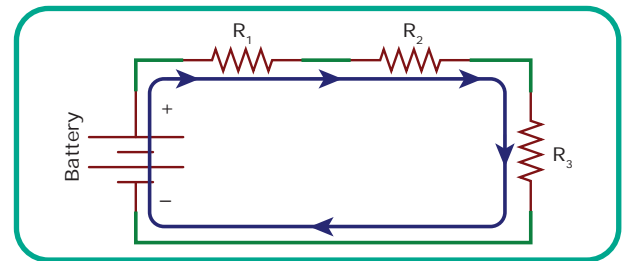

Figure 1.18 Resistors in series
Figure 1.18 shows three resistors R_1 , R_2 and R_3 connected in series. When the voltage (V) is applied to the circuit, the current flow through the circuit and the following important points are to be noted.